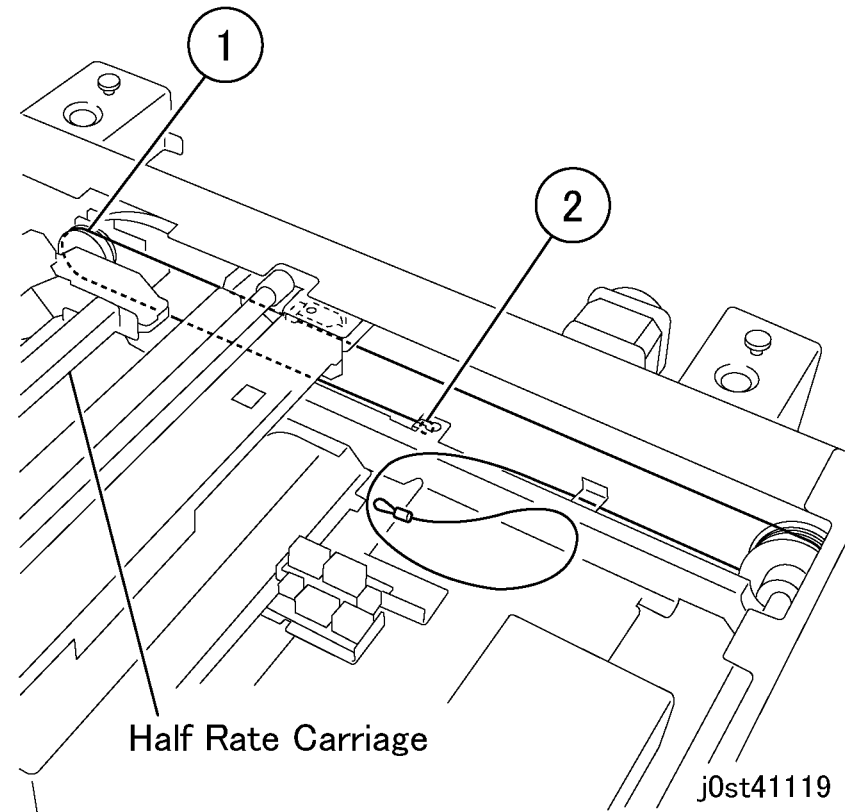

Figure 9 Installing the Carriage Cable
2. Install the ball end of the Carriage Cable. (Figure 9)